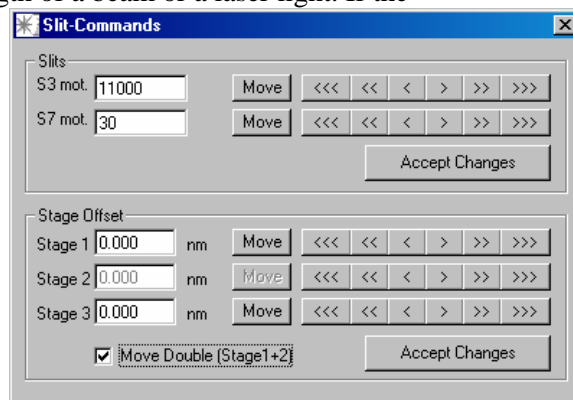

Figure 87. Move First Two Stages Simultaneously
3. Start data acquisition on rel. wavenumber 0 in Focus mode and with Stage Settings as shown in Figure 87.